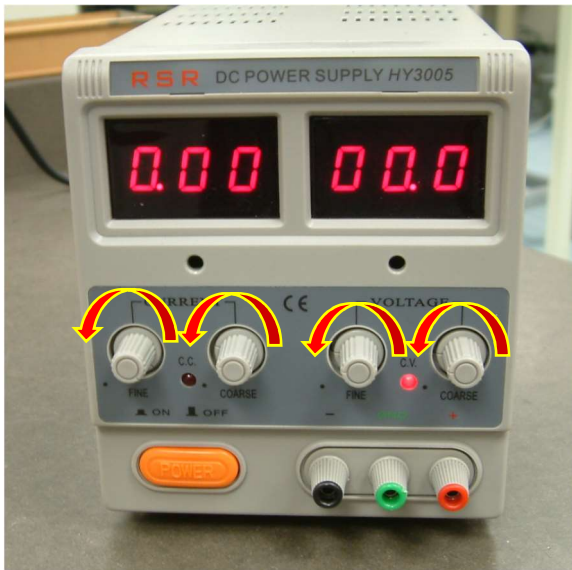

Figure 6
1. Before connecting the load, first turn all knobs fully counter-clockwise, see Figure 6.